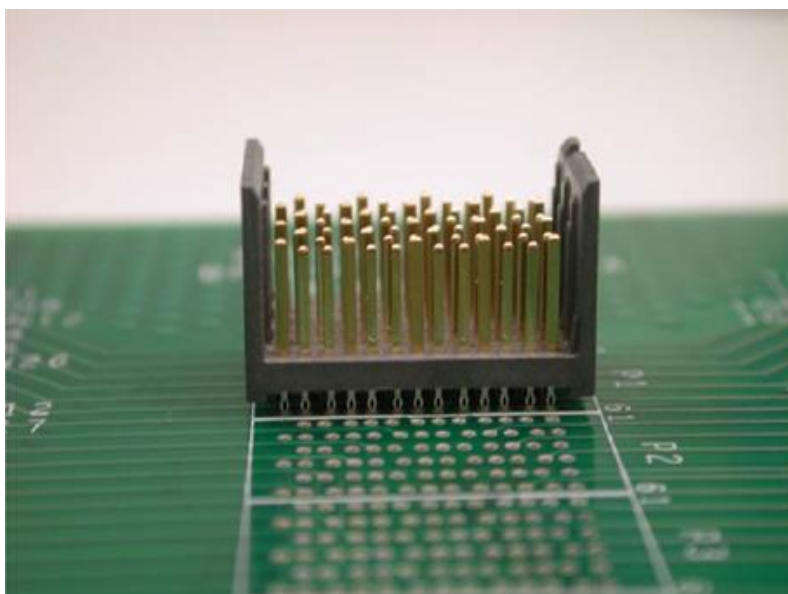

Figure 14: Rightmost view of assembly, check for bent pins
Step 7. Check for any bent pins protruding from under the connector assembly, see Figure 14.